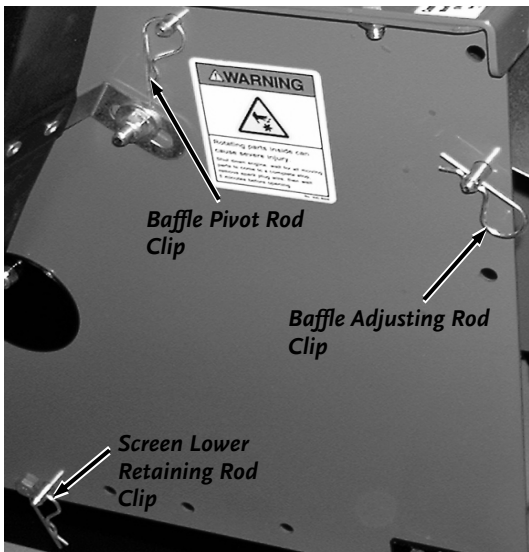

Figure 11
1. Remove the Baffle Plate by removing the Hair Spring Clip on the Adjusting Rod and the Pivot Rod and then removing the two (2) Rods (**Figure 11**).
3. Remove the Screen Lower Hair Spring Clip from the Retaining Rod and remove the Rod (**Figure 11**).
3. Remove the Baffle Plate (see **Figure 11** on page 16).